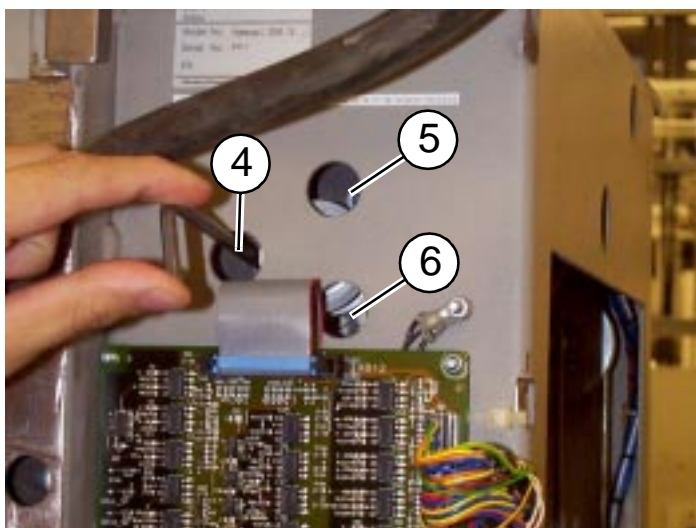

Fig. 5
5. Remove the 3 screws (see Fig. 5, pos.4, 5, 6).
7. Secure the new motor with the 3 screws (see Fig. 5, pos. 4, 5 and 6).
3. Remove 2 of the screws (see Fig. 5, pos.4, 5).
4. Remove the 3:d screw (see Fig. 5, pos. 6).
6. Install the new motor. Secure it with 1 screw only (see Fig. 5, pos.6).
8. Secure the motor with the 2 remaining screws (see Fig. 5, pos.4 and 5).